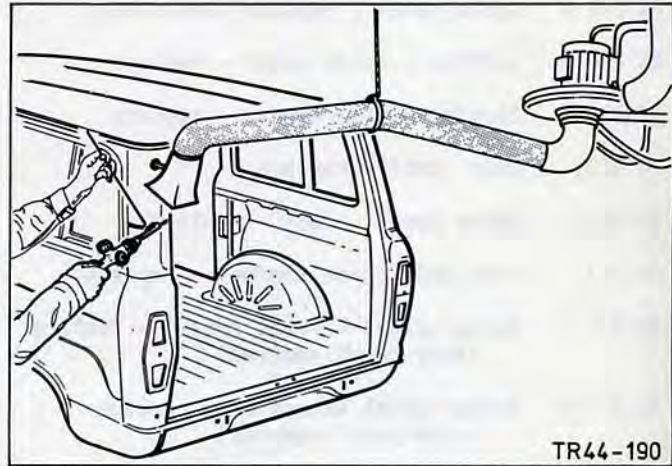

Fig.27. Fume extraction.
3. If the rustproofing agents cannot be removed for reasons of space or accessibility, fumes and vapours must be extracted directly during welding operations. Exhaust extraction units with suction funnels attached to flexible hoses are most suitable for this purpose, Fig.27.